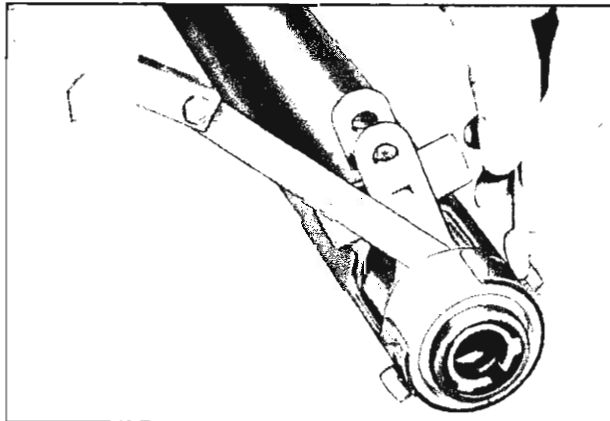

Fig. 32—Checking Adjusting Ring Clearance
13. Rotate lower adjusting ring until there is .005" maximum end play (with no binding) between adjusting ring and first and reverse shifter lever as shown in Figure 32. Tighten attaching screws.